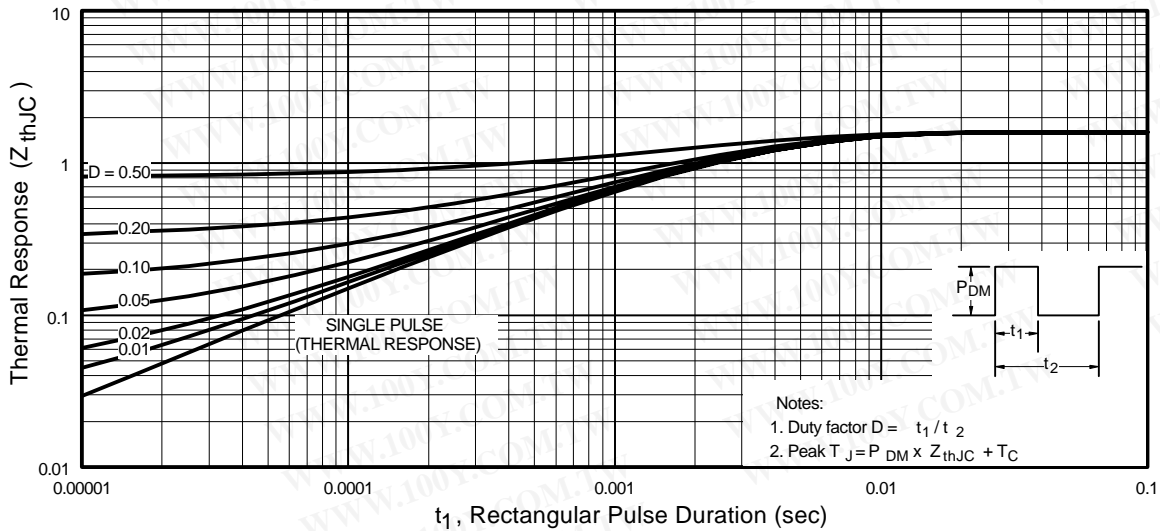

Fig 11. Maximum Effective Transient Thermal Impedance, Junction-to-Case
- ① Repetitive rating; pulse width limited by max. junction temperature. (See fig. 11)
② Starting $T_J = 25^\circ\text{C}$, $L = 220\mu H$